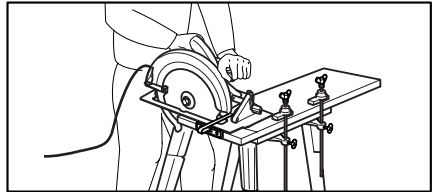

Fig. 4 A typical illustration of proper hand support, workpiece support, and supply cord routing.
**WARNING:** It is important to support the workpiece properly and to hold the saw firmly to prevent loss of control which could cause personal injury. Fig. 4 illustrates typical hand support of the saw.